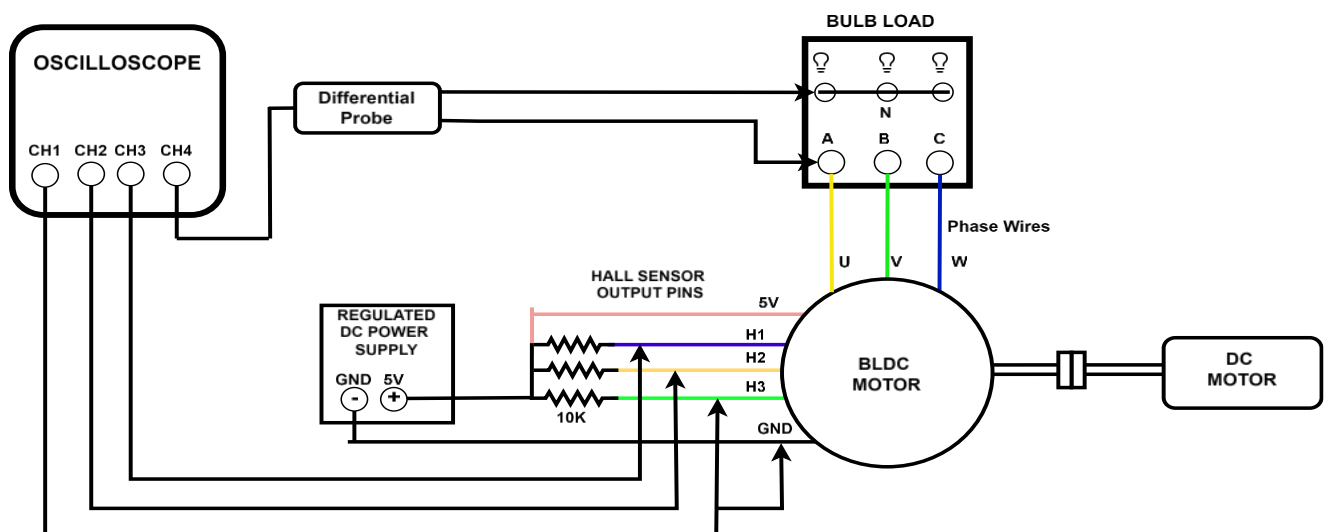

Fig2: - Circuit diagram of hall sensor output sequence setup
- Connect the circuit as shown in Fig2. The DC motor will be used as a prime mover for the BLDC motor.